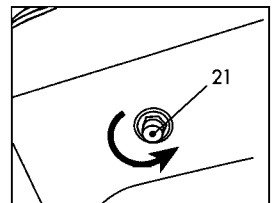

Fig. 24
In the event that the machine is not used for a long period of time, we recommend completely emptying out the machine and the boiler by unscrewing the drain screw (21) (this is located on the bottom of the machine). Fig. 24